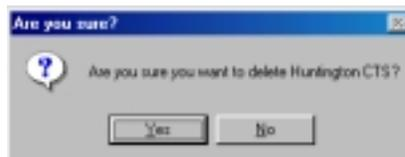

Figure 9.7 Deletion Confirmation
4. A message will appear to verify deletion of selected Profile, click the Yes button to proceed with deletion of machine or the No button to cancel (Figure 9.7).